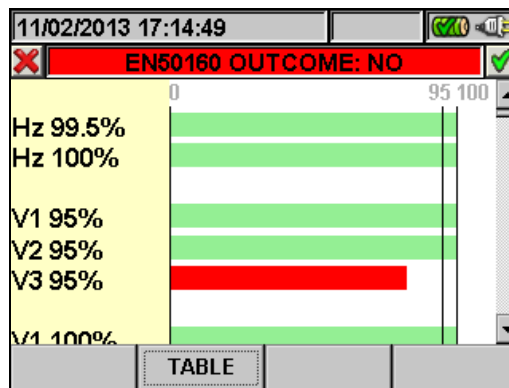

Fig. 131: EN50160 analysis histogram
- The **F2** key (or the **GRAPH** item on the display) accesses the page which shows the histogram of the quantities in the table (see Fig. 131)